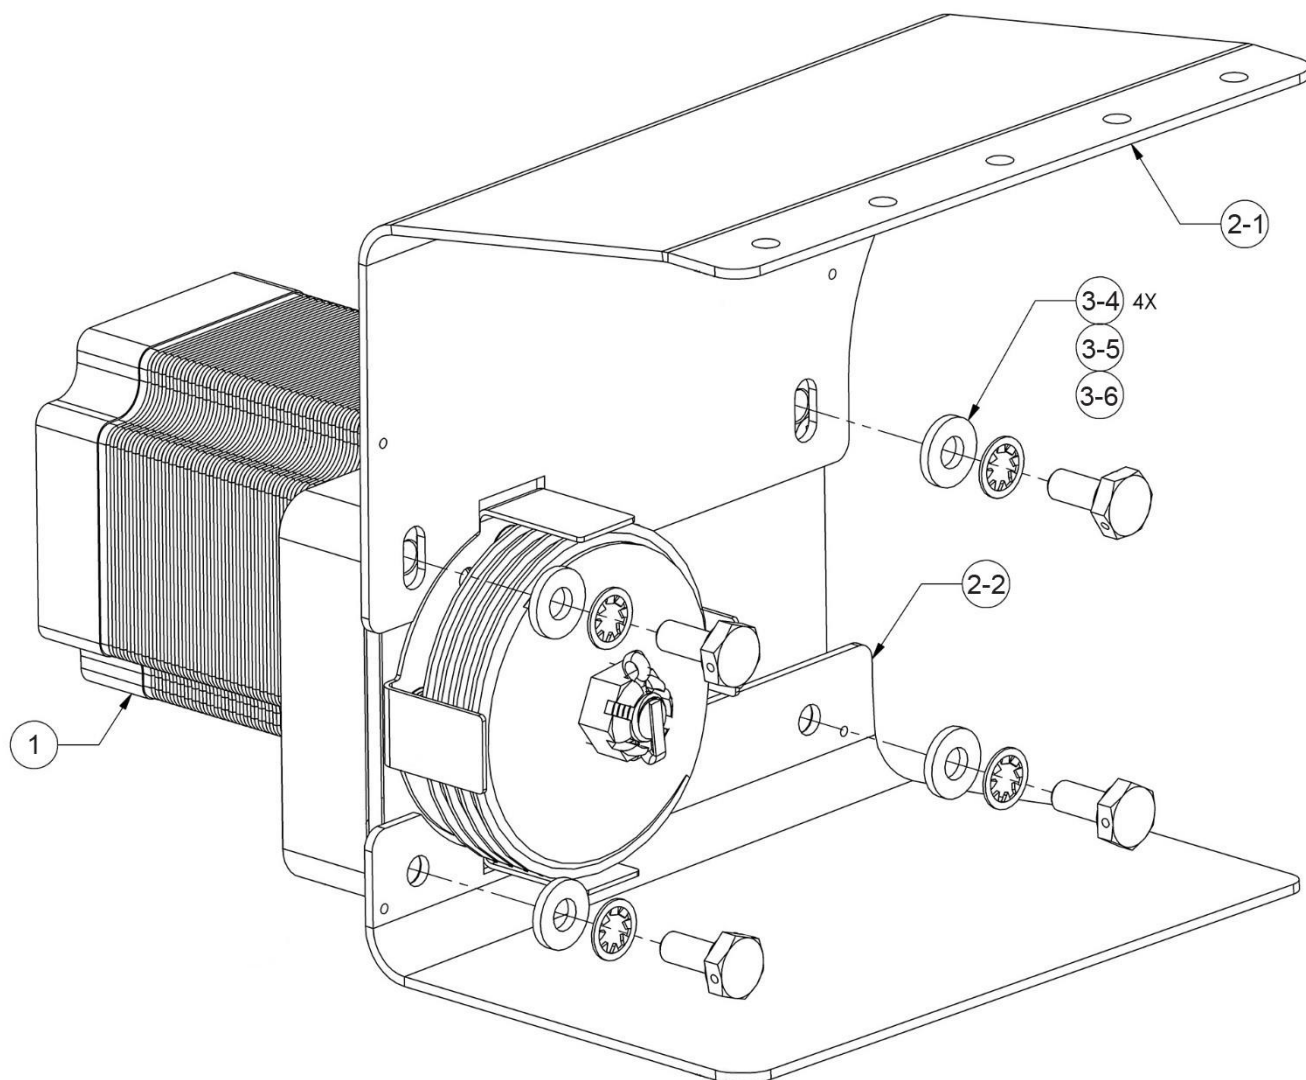

Figure 4: Roll Servo and Brackets Assembled
8. Cut safety wire and remove roll servo from upper and lower brackets (see Figure 4).
1. Attach upper and lower brackets to roll servo (see Figure 4). Attach upper bracket to roll servo using marks made during temporary installation or removal.